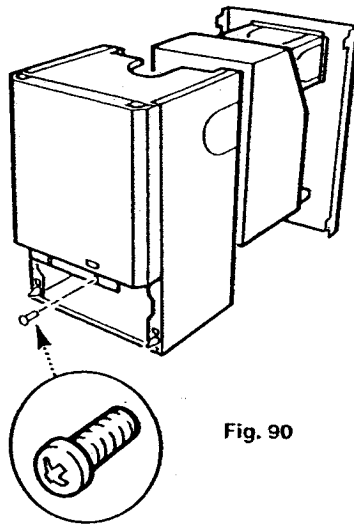

Fig. 90
5. Remove the outer case from the boiler by unscrewing the two screws and lift the case clear (Fig. 90).